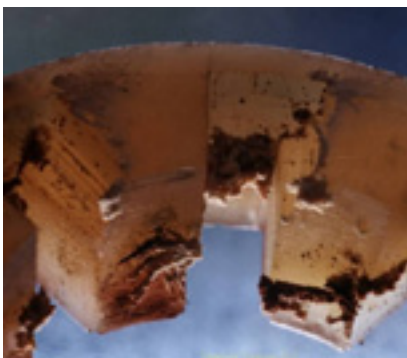

Figure 2. Coupling Insert Damaged by Misalignment
- Excessive misalignment can cause the most durable and best-designed couplings to wear quickly or even fail. Damage to a coupling insert can be seen in *Figure 2*.